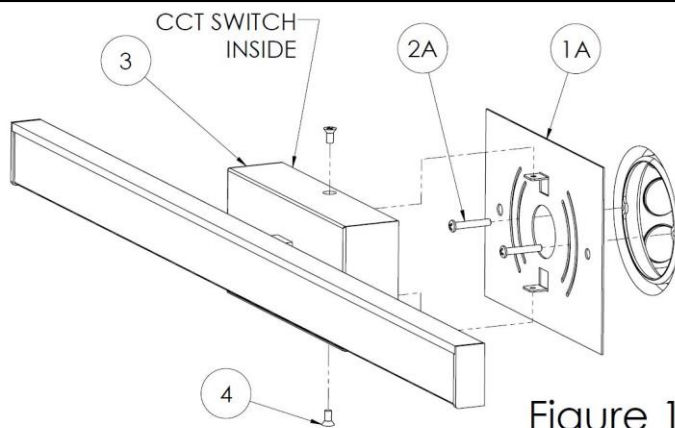
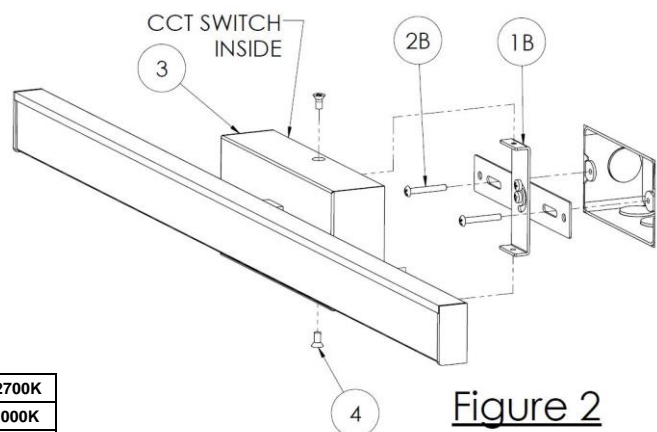

Figure 1
Figure 2
- Follow Figure 1 if your installation is going on the 3/0 or 4/0 junction box (not included). Or follow Figure 2 if your installation is going on the handy box (not included). Note. One of the mounting brackets (1A or 1B) will be discarded after installation is completed. Remove mounting bracket (1A or 1B) from fixture (3) by removing two screws (4).